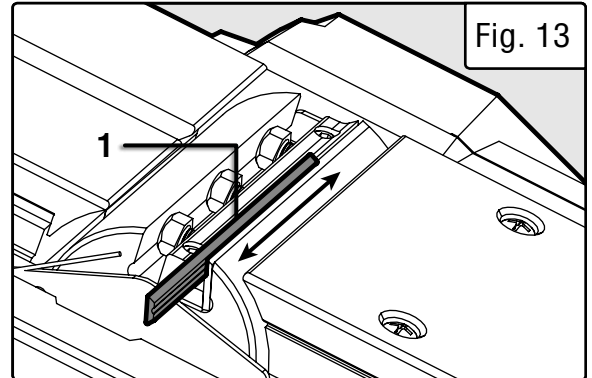

Fig. 13
4. Hold the cutterhead in place and carefully slide the blade (Fig. 13 - 1) out towards the blade guard side. You can also use a wooden block to push the blade out of the cutterhead.
7. Slide the blade with the good side up into the blade retainer of the cutterhead (Fig. 13).